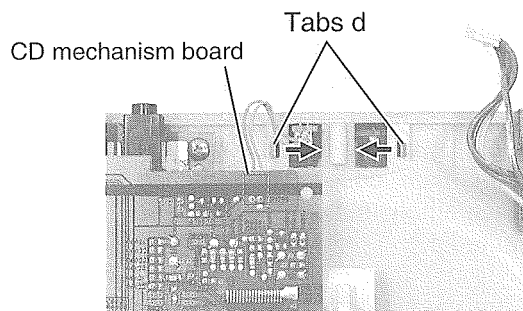

Fig.34
■ Removing the LED board (See Fig.34 and 35)